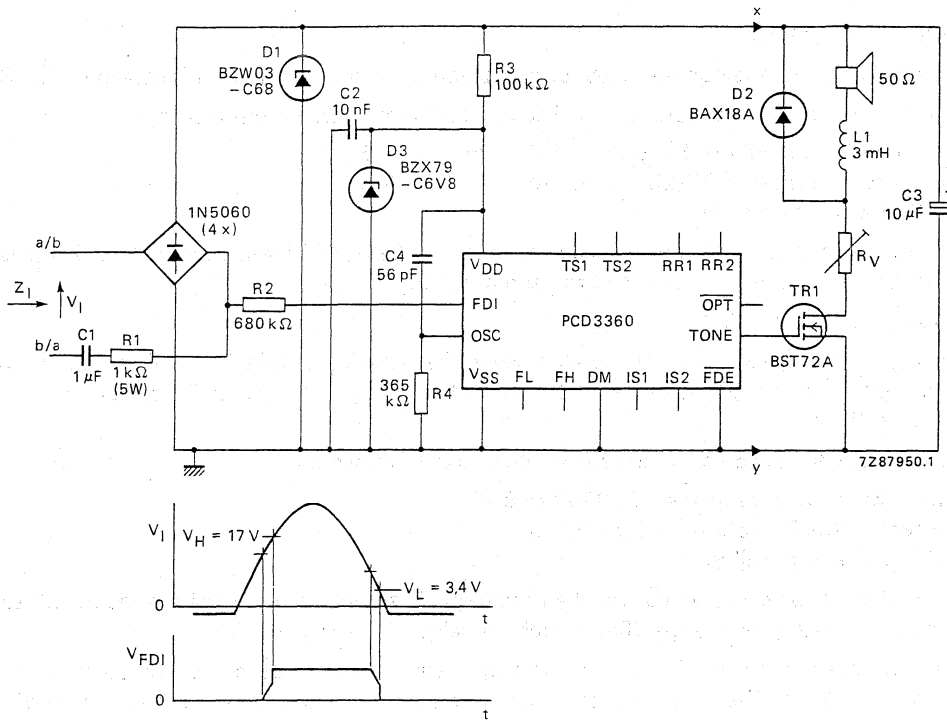
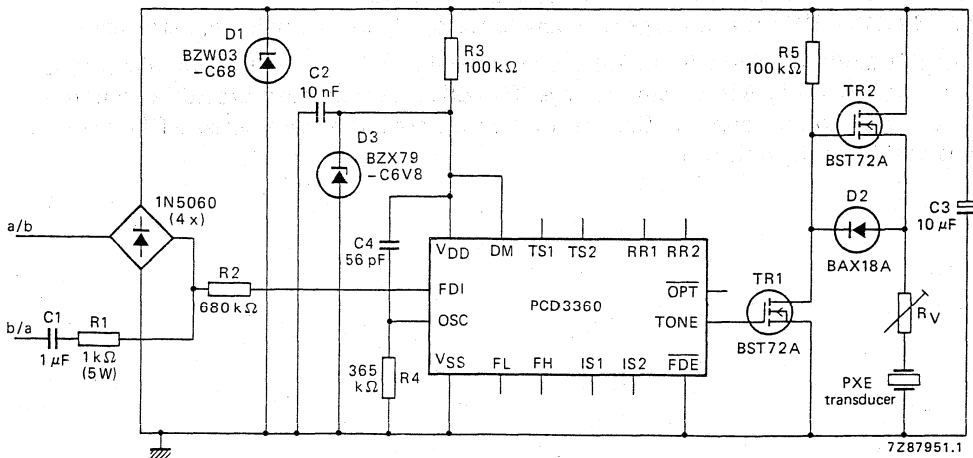

Fig. 8. Transformerless electronic ringer with PCD3360 and a loudspeaker.
Fig. 9 PCD3360 ringer with PXE transducer.
Application of the PCD3360 in a telephone ringer circuit together with a loudspeaker is shown in Fig. 8.
- The value of R2 (680 k $\Omega$  in Fig. 8)
- The value of R3 (100 k $\Omega$  in Fig. 8)
Application of the PCD3360 together with a PXE transducer is shown in Fig. 9. The only significant difference between Fig. 8 and Fig. 9 is the output stage. Two BST72A transistors provide an output voltage swing almost equal to the voltage at C3. Pins IS1 and IS2 are inoperative because  $\text{DM} = \text{HIGH}$ . Volume control is possible using resistor  $R_V$ .